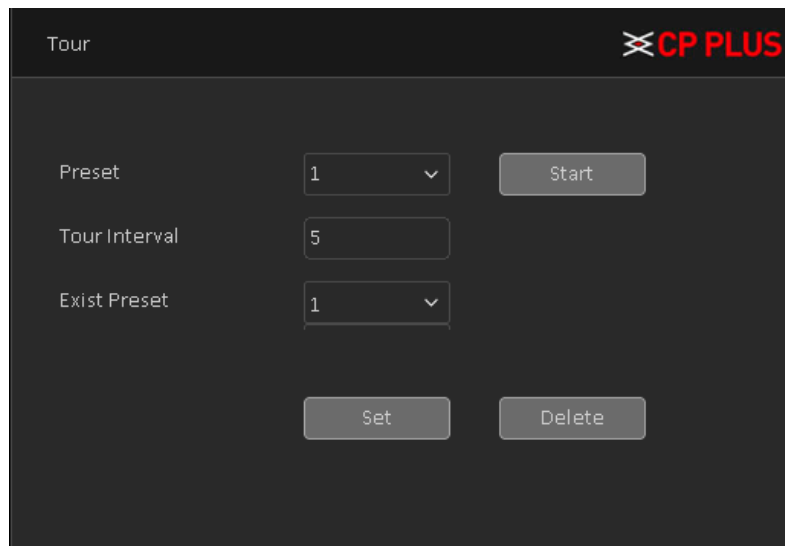

Figure 3.20
- Click on button to add selected preset in tour. It will show in Exist Preset, See Figure 3.20